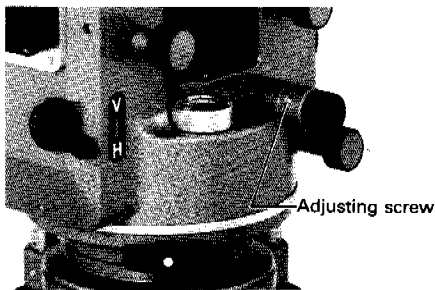

Fig. 32
3. Turn three optical plummet adjusting screws with a screwdriver so that the center mark coincides with intersecting point O (see Fig. 32).